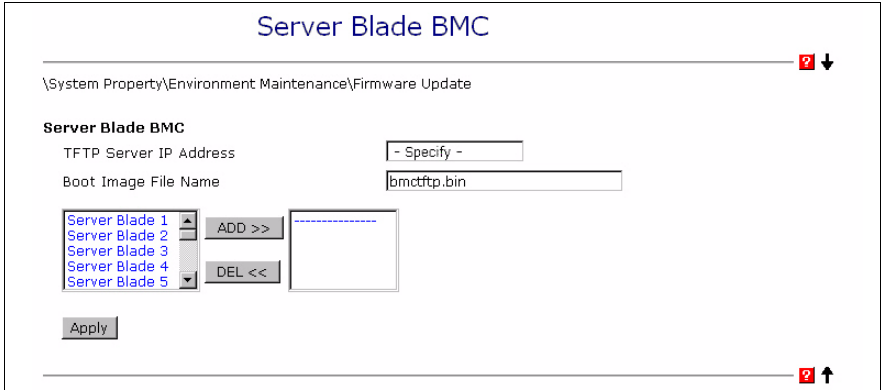

Figure 22: Updating the server blade BMC via the web interface
- ▶ Repeat the procedure to update the BMC firmware (see figure 22).